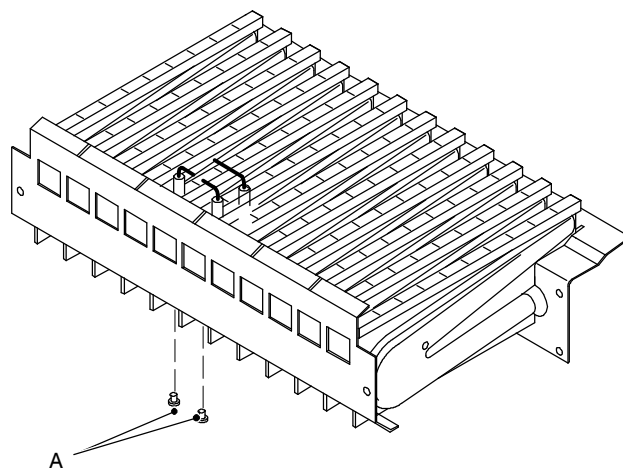

Fig. 76
- 4 Unscrew the screws A (Fig. 76) which hold the electrodes to the burner.